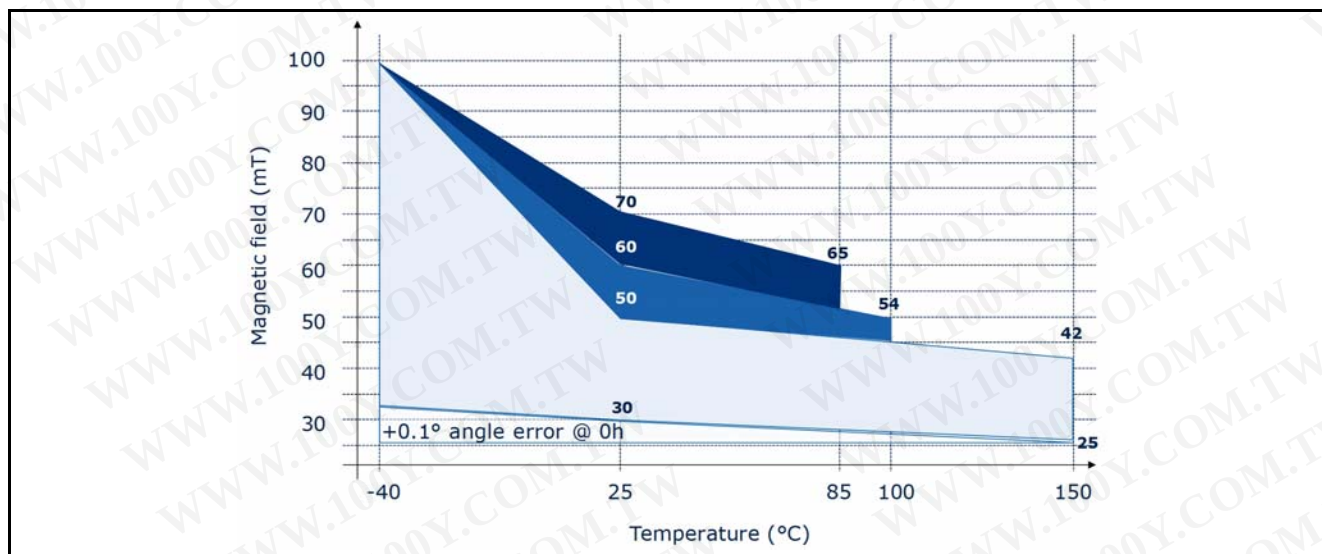

Figure 7 Magnet performance (ambient temperature)
5) See **Figure 7**
The field strength of a magnet can be selected within the colored area in **Figure 7**. By limitation of the junction temperature, a higher magnetic field can be applied. In case of a maximum temperature $T_J = 100^{\circ}\text{C}$ a magnet with up to 60mT at $T_A = 25^{\circ}\text{C}$ is allowed.